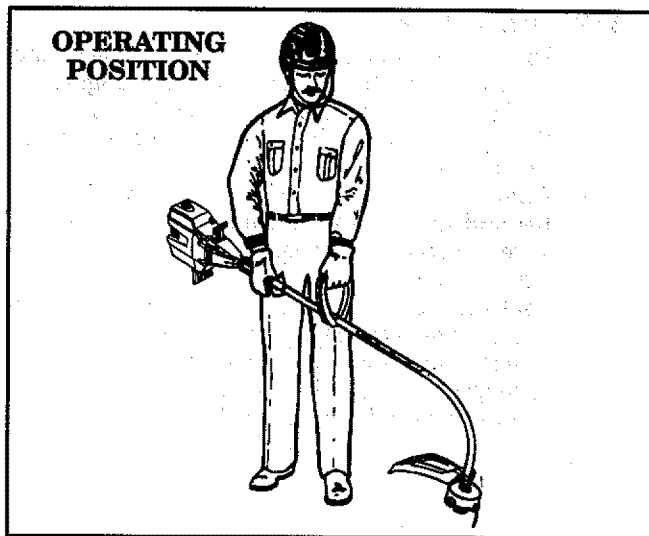

Figure 9
- Before starting the engine, stand as shown in Figure 9 and check for the following: